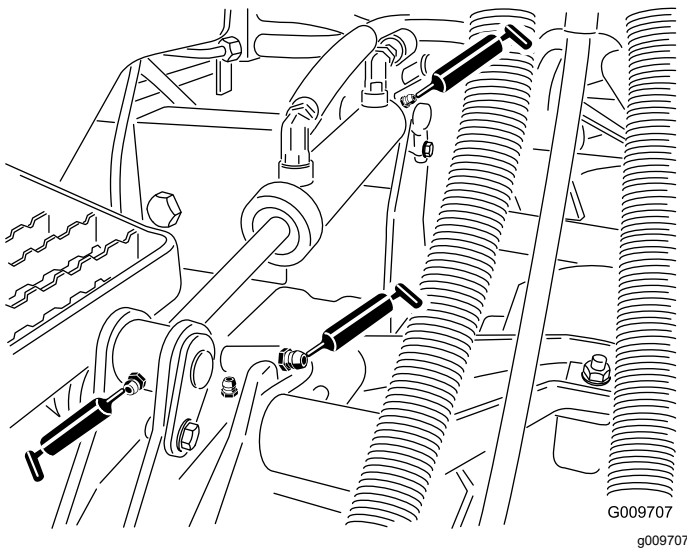

Figure 43
- Lift-arm bushings (1 per cutting unit) as shown in Figure 43
- Lift-cylinder bushings (2 per cutting unit) as shown in Figure 43